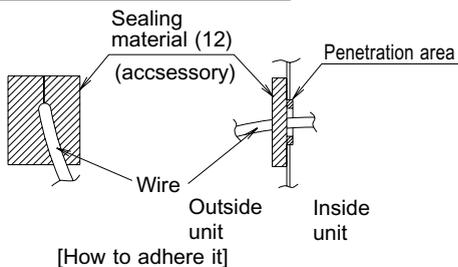

Fig. 14
Securely clamp the cables with the clamps (9)(10) offered as accessories as shown in Fig. 14 so that tension will not be applied on the cable connection areas.
- Wire only after removing the control box lid as shown in Fig. 14.
- Wrap the strong and weak electric lines with the sealing material (12) as shown in the figure below. (Otherwise, moisture or small creatures such as insects from the outside may cause short-circuit inside the control box.) Attach securely so that there are no gaps.
- When clamping the wiring, use the included clamp material (9) and (10) as shown in the Fig.14 to prevent outside pressure being exerted on the wiring connections and clamp firmly.